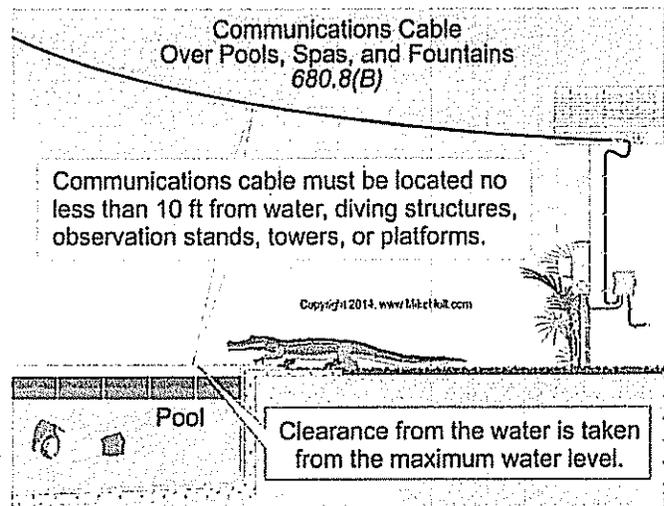

Figure 680-12
**(B) Communications Systems.** Permanently installed pools, storable pools, outdoor spas, outdoor hot tubs, fountains, diving structures, observation stands, towers, or platforms must not be placed under, or within, 10 ft of communications cables. Figure 680-12